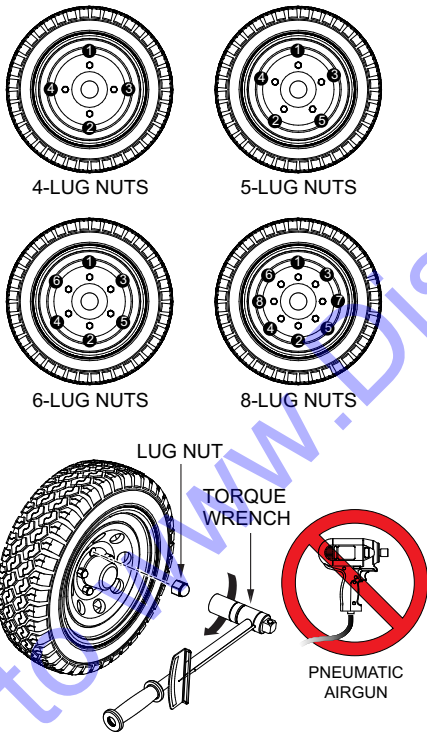

Figure 68. Lug Nut Torque Sequence
2. Torque all lug nuts (Figure 68) in sequence. **DO NOT** torque the wheel lug nuts all the way down. Tighten each lug nut in 3 separate passes as defined by Table 9.